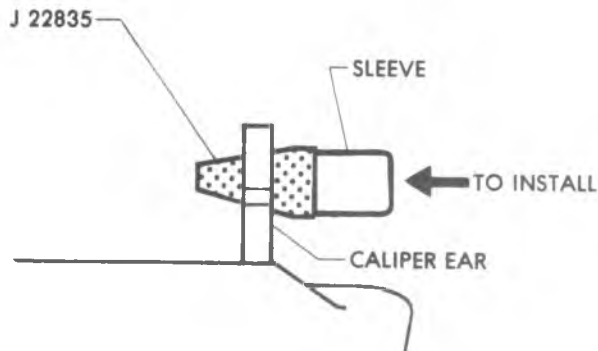

Fig. 5-25--Sleeve Installation
2. Use Tool, J-22835, to install the sleeves (fig. 5-25). Position the sleeves so that the end toward the shoe and lining assemblies is flush with the machined surface of the ear.